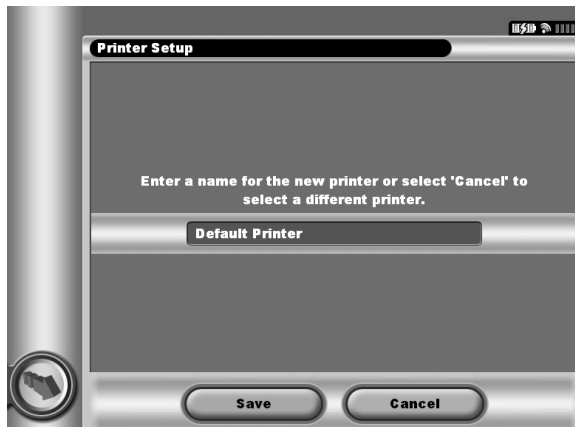

Figure 14: Use the keyboard to enter a name for the selected printer
5. Select the desired printer name and enter the name using the keyboard (up to 15 characters) (Figure 14). A unique printer identifier should appear with the printer selection.